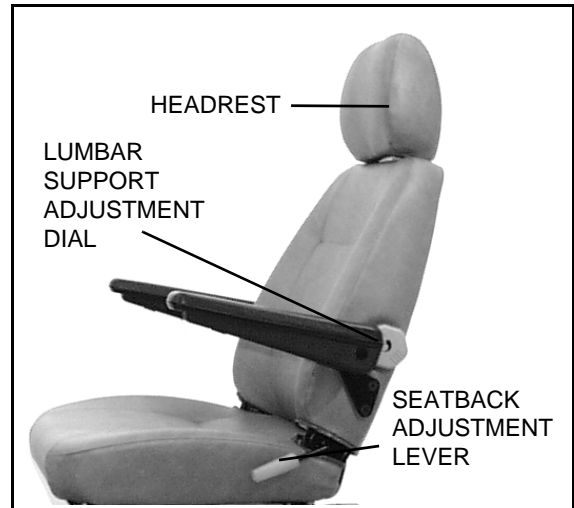

Figure 12. Seatback and Headrest Adjustments
1. Pulling up on the headrest will raise its position. See **figure 12**.
To adjust your PMV's reclining seat, perform these steps (see **figure 12**):
The lumbar support is inside the lower part of the seatback. Turn the lumbar support adjustment dial counterclockwise to move the support into a comfortable position. See **figure 12**.
NOTE: *If your PMV is not equipped with a reclining high-back seat, as shown in figure 12, you will be able to adjust the height and width of the armrest by following the directions below.*